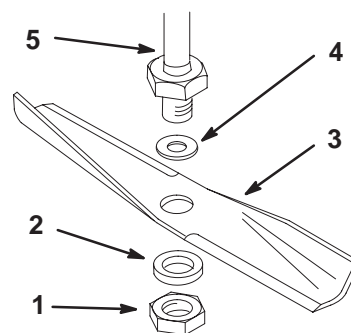

Figure 25
Note: Make sure the blade and hardware are install in the positions shown in Figure 25.
3. Remove the nut, flat washer, blade and washer (thick) (Fig. 25). A block of wood may be wedged between the blade and the mower to lock the blade when you are removing the bolt.
1. Install the washer, blade, flat washer, and the blade nut (Fig. 25).